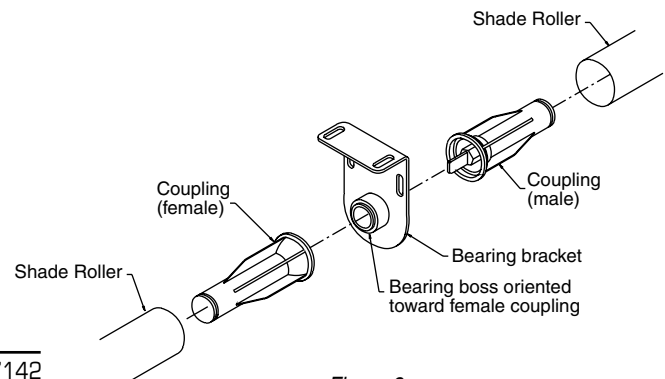

Figure 3
- ① Mount brackets/endcaps (see "Mounting Brackets and Endcaps" above).
- ② Attach operator end of first shade to the bracket and insert coupling into other end roller.
- NOTE: Couplers are designed with fins, which slide into the slot in the fabric roller, locking them in place (see Fig. 3).
- ③ Slide bearing bracket onto coupler, and mount bearing bracket.